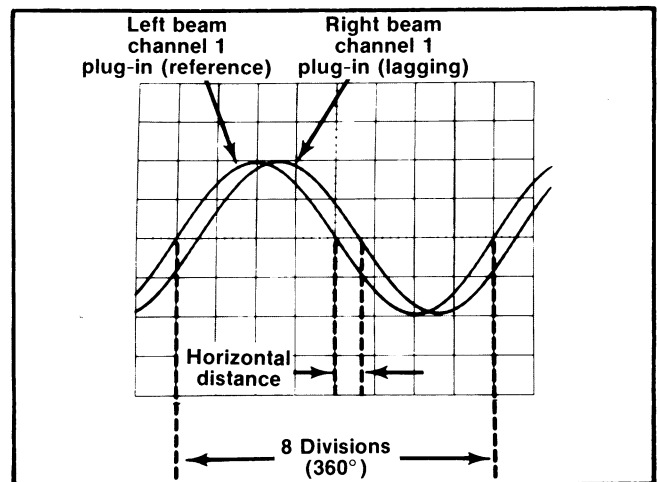
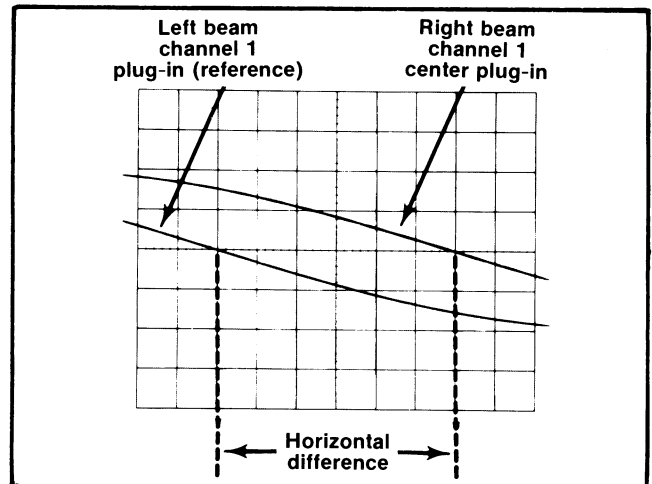

Fig. 1-6. Measuring phase difference.
Fig. 1-7. High-resolution phase difference measurement with increased sweep rate.
9. Turn the variable Sec/Div control until one cycle of the reference signal (channel 1 of left beam) occupies exactly eight divisions between the second and tenth vertical lines of the graticule (see Fig. 1-6). Each division of the graticule represents 45° of the cycle ($360^\circ \div 8 \text{ divisions} = 45^\circ/\text{division}$). The sweep rate can be stated in terms of degrees as $45^\circ/\text{division}$.
EXAMPLE: Assume a horizontal difference of 0.6 division with a sweep rate of $45^\circ/\text{division}$ as shown in Fig. 1-6. Use the formula:
EXAMPLE: If the sweep rate were increased 10 times with the magnifier, the magnifier sweep rate should be $45^\circ/\text{division} \div 10 = 4.5^\circ/\text{division}$. Fig. 1-7 shows the same signals as used in Fig. 1-6, but with the Swp Mag button pushed in. With a horizontal difference of six divisions the phase difference is: